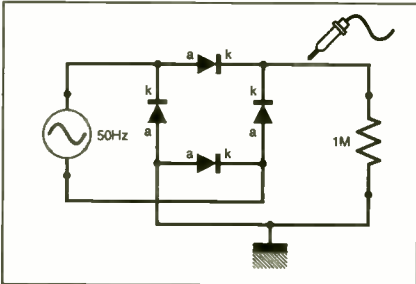
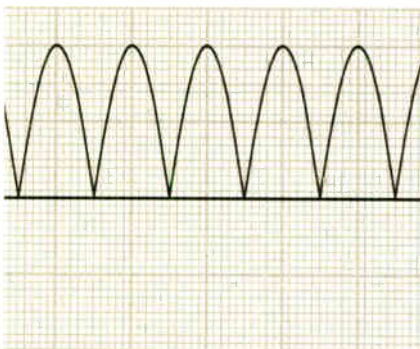

Fig.1.11. Experiment illustrating full-wave rectification.
Fig.1.12. Full-wave rectification converts an a.c. signal into d.c. but retains the "ripples" of the a.c. waveform.
The four diodes are connected as shown in Fig.1.11, and the resulting graph is shown in Fig.1.12. Notice that unlike the previous graph, the gaps have been filled to
**WARNING:** When experimenting with diodes, ensure that current is able to flow through the diodes by using a lamp (as in the half-wave circuit) or a resistor to provide a "load", as shown in Fig.1.11. Also, with the full-wave circuit, if you are using an oscilloscope (see Panel 1.3 later) to view the waveform, the oscilloscope ground (0V) must be connected only to the d.c. side of the bridge. You cannot, for example, use a double beam oscilloscope to monitor the a.c. and d.c. sides of the circuit at the same time.